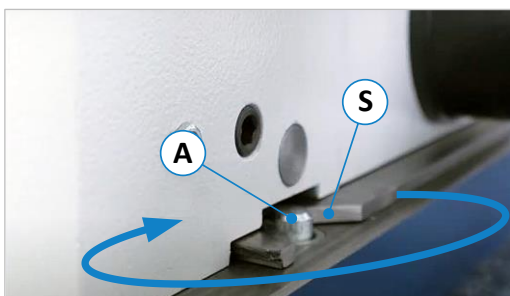

Figure 30: Lock and engage
- To ensure parallelism with the machine table, turn the fence slightly until the centring pins (Z) on the underside of the fence (hidden in the view) engage in the holes (B) on the machine table (see ⇨ Figure 30). A slight click can be heard.